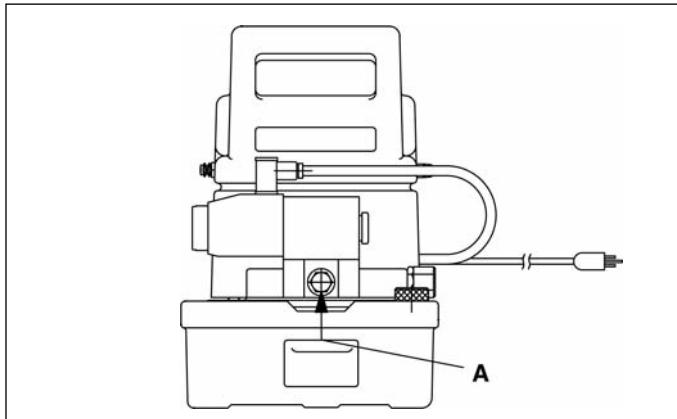

Figure 4
1. The pump-to-cylinder hose attaches directly to the output port (A) of the control valve (see Figure 4).